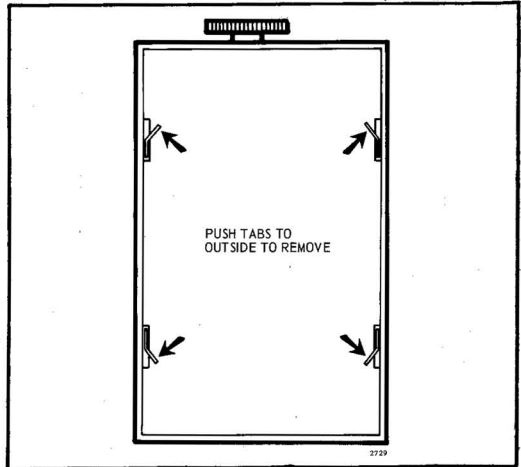

Fig. 1—Changing coverplate for horizontal mounting.
1. If mounting horizontally, coverplate must be changed. To remove vertical coverplate, bend four corner tabs to outside and push out on cover. Place horizontal coverplate on cover frame and bend four corner tabs to inside. (See Fig. 1).